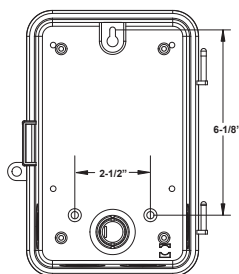

Figure 3 - Rear View of Enclosure with mounting hole dimensions
5. Place the enclosure in the desired mounting location, and mark the three mounting holes (refer to Figure 3 below for dimensions). Install the top screw first with one of the supplied spacers, and then hang the enclosure by the key-hole. Drive the remaining two screws at the bottom of the enclosure through the mounting holes while passing each screw through one of the supplied spacers and in to the wall.